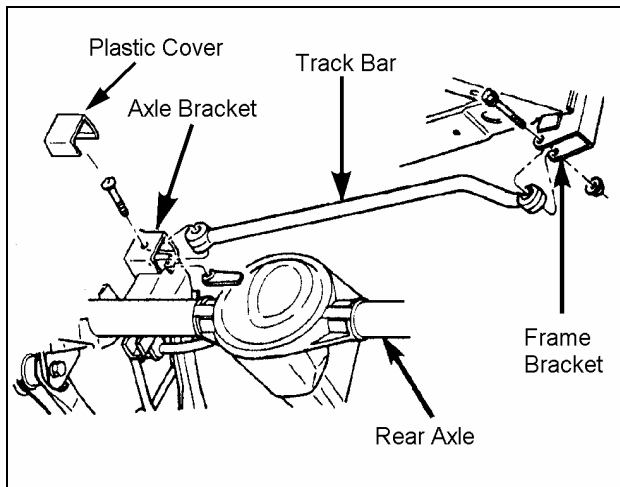

Figure 11
- 4) ☐ Separate the track bar from the axle bracket. Remove the track Bar. See Figure 11.